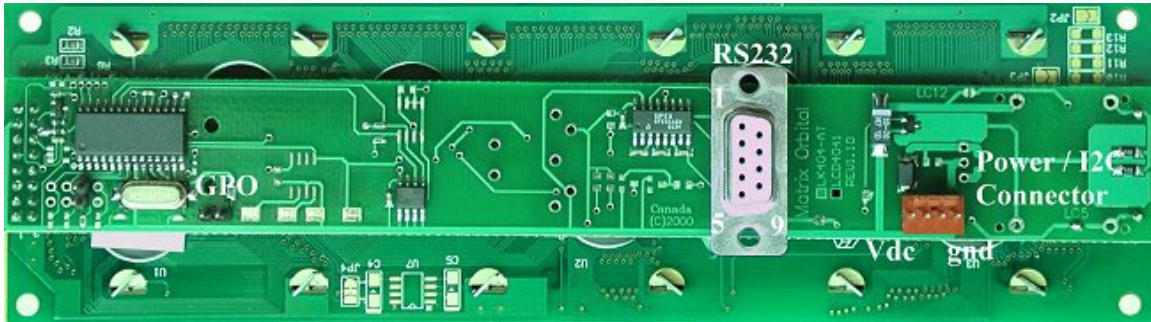

Figure 2-1 Electrical Connections
1. Refer to the diagram above and Figure 2-1 for the following steps.
Power is applied via pins 1 and 4 as shown in Figure 2-1.